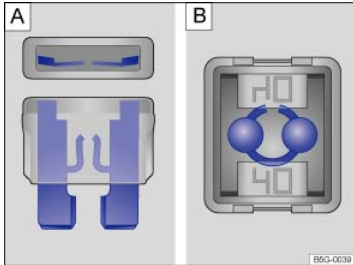

Fig. 233 Blown fuse: : Blade fuse. : JCASE® fuse.
- A blown *blade fuse* (ATO®, MINI®) has metal strips that have burned through, which you can see through the transparent housing from above and from the side ⇒ Fig. 233 A.
- A blown *cartridge fuse* (JCASE®) has metal strips that have burned through, which you can see through the transparent housing from above ⇒ Fig. 233 B.